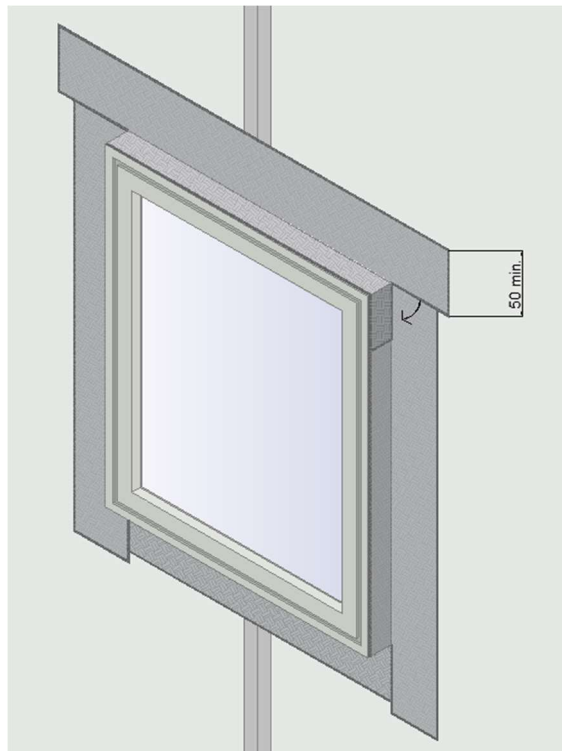

Figure 14
- Repeat the procedure for the other side of the head (Figure 14).
When all four sides are complete the membrane should resemble a picture frame around the perimeter as shown in Figure 14.